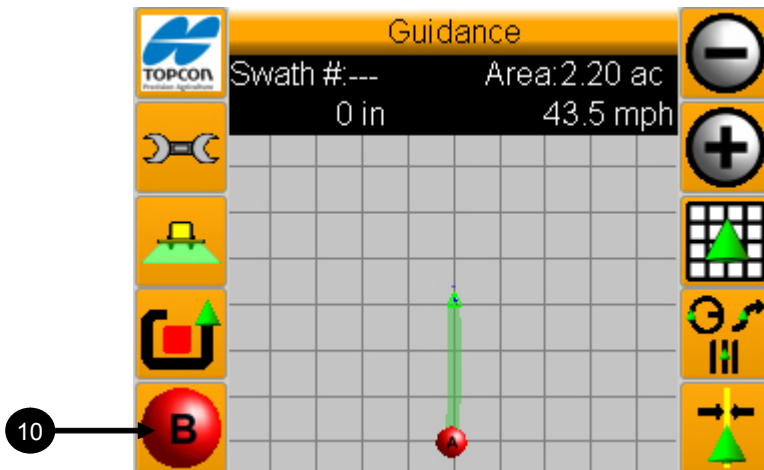

Figure 10-15. Set the first point of the AB line
9. Select  to set the first point of the AB Line (figure 10-15).